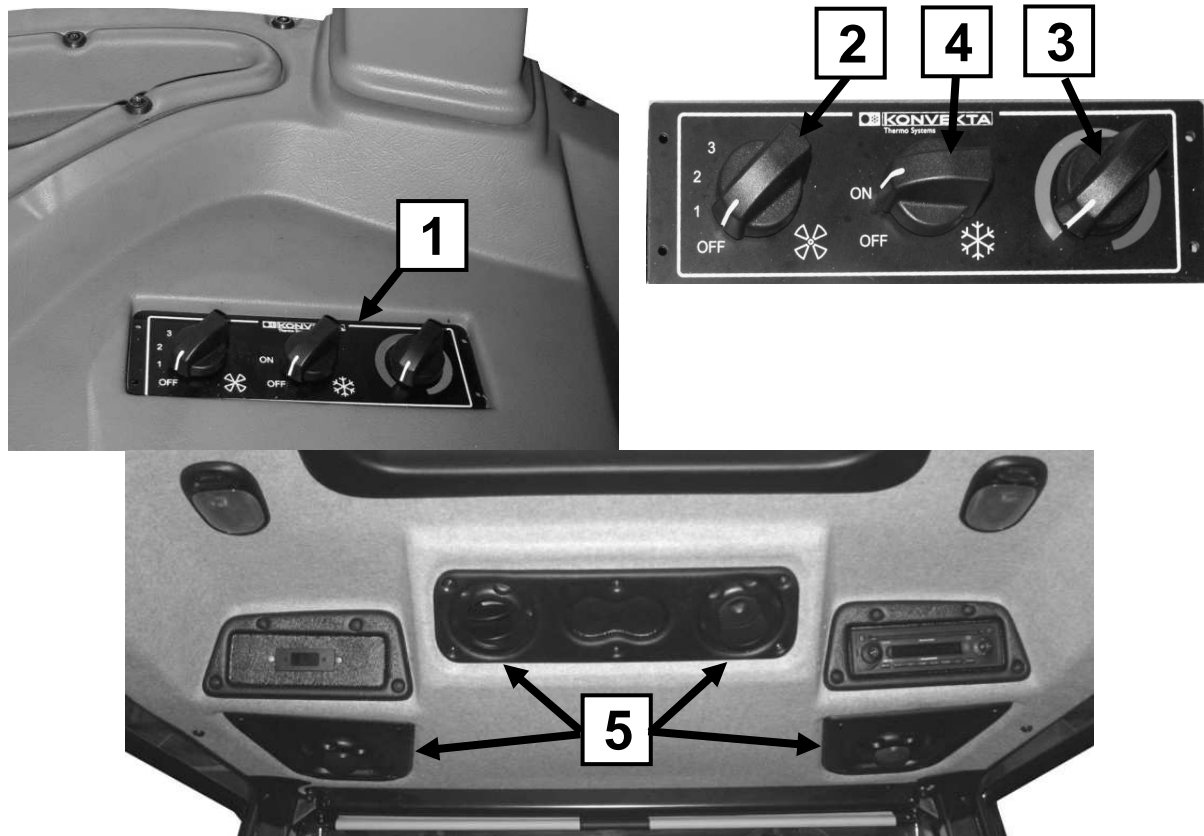

Figure 4-21 Ventilation, heating and cab air conditioning system.
Switching on blower by connecting fan with knob **2** (**Figure 4-21**) placed on control panel **1** on the left side of cab.
Airflow temperature control knob **3** (**Figure 4-21**) enables smooth temperature adjustment of hot air from heater. Turning the knob to the right or left side lowers or increases temperature of air coming from heater to air outlet.
Switching on blower by connecting fan with knob **2 (Figure 4-21)** placed on control panel **1** on the left side of cab.
Airflow temperature control knob **3 (Figure 4-21)** enables smooth temperature adjustment of cooled air. Turning knob to the right or left reduces or increases temperature of air leaving evaporator. To switch on air conditioner turn knob **4 (Figure 4-21)**.
- fan knob **2 (Figure 4-21)** selects required degree of blower operation,
- knob **4 (Figure 4-21)** activates air conditioning
- knob **3 (Figure 4-21)** sets required temperature,